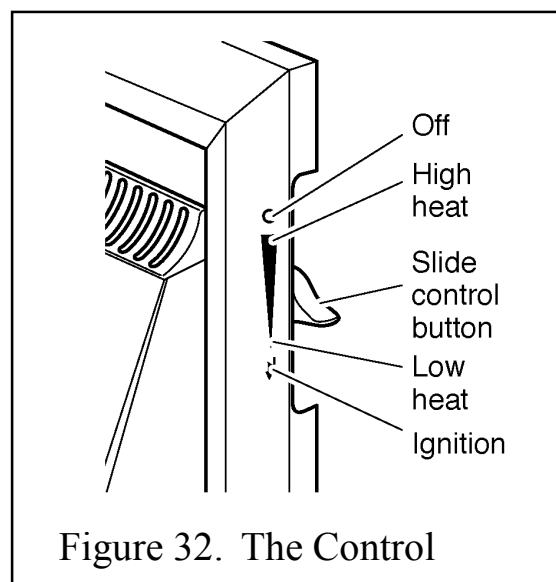

Figure 32. The Control
The control position markings on the front surround are shown in figure 32.
5. Gradually slide the button up to increase the burner setting. The burner should be at its maximum setting at the high heat position shown in figure 32. You should feel a check to the button movement at this position.